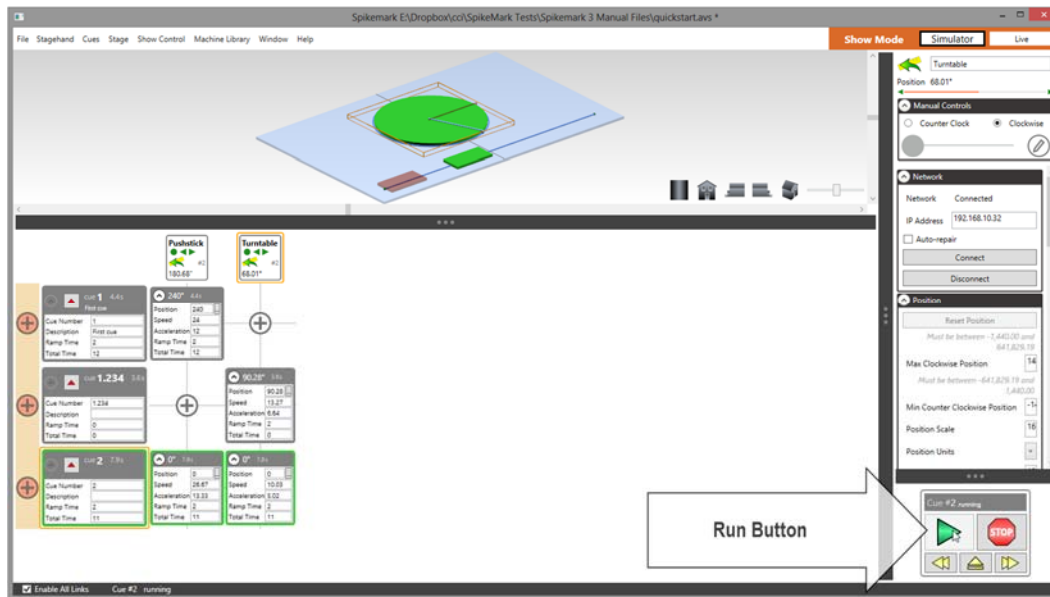

Figure 49
17. Press the **Run** button and watch the cue execute (Figure 49). Notice how both the *Pushstick* and the *Turntable* start and end at the same time since we specified a **Total Time** for the entire cue.